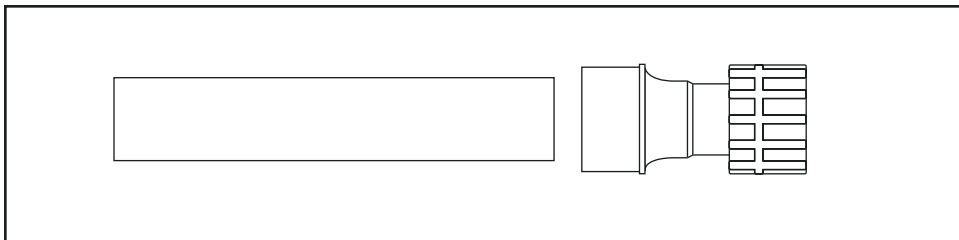

Figure 1: Connecting PVC Pipe to Slip Adapter
6. Ensure that a 1" male fitting (D) (not included) is connected to the end of the sprinkler supply line.
7. Connect the manifold (E) to the sprinkler supply line, using the union connection.
8. Check manifold connections (F) attached to each valve.
9. Select appropriate adapters for your sprinkler system and connect them to the thread-ed valve end (G):
- 3/4" PVC slip adapter is used as a female slip for 3/4" PVC Pipe or use a 1" coupler for 1" PVC pipe. [See figure 1]